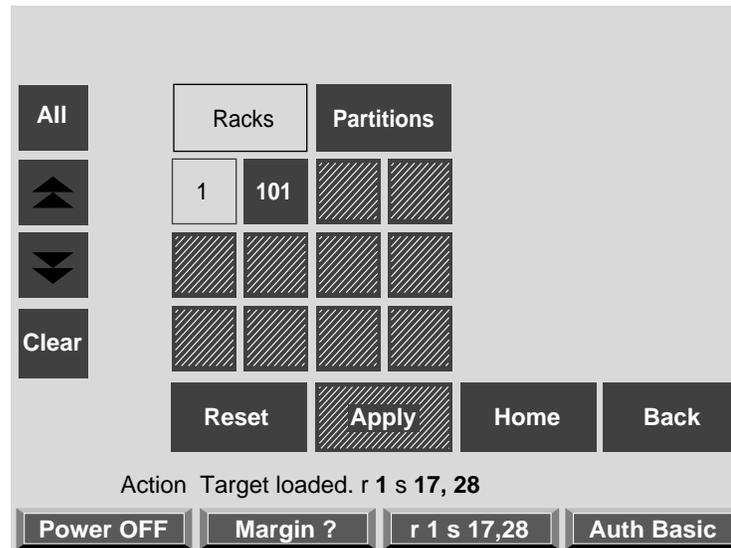

Figure 2-22 Target Indicator at Bottom of Display
4. From the “Bricks on Rack” segment of the display, touch your brick selections. For example, touch 17 and 28. After you have made your brick selections, touch **Apply**. Your selection will be reflected in the target indicator across the bottom of the display, as shown in Figure 2-22. The target will show “r 1 s 17, 28,” which indicates that you have selected slots (bricks) 17 and 28 from rack 1 on your server to power off.